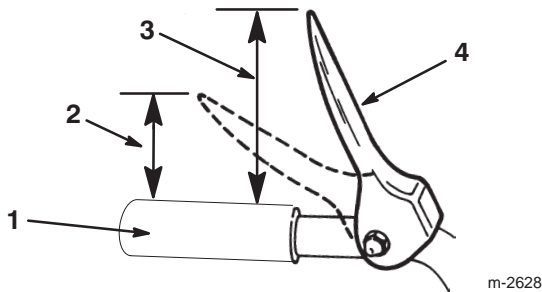

Figure 12
- Check the distance between the top of the handgrip and the bottom of the auger/impeller drive control lever. The distance should be approximately four inches (10.2 centimeters) as shown in Figure 12.
distance between the top of the handgrip and the bottom of the auger/impeller drive control lever is two inches (five centimeters) as shown in Figure 12.